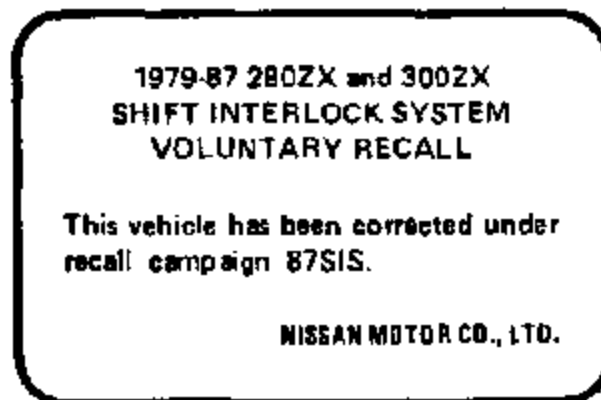

FIGURE 1
3. The dealer must install a label under the hood (Figure 1), next to the Existing Emission Control Information label, when the correction has been completed.